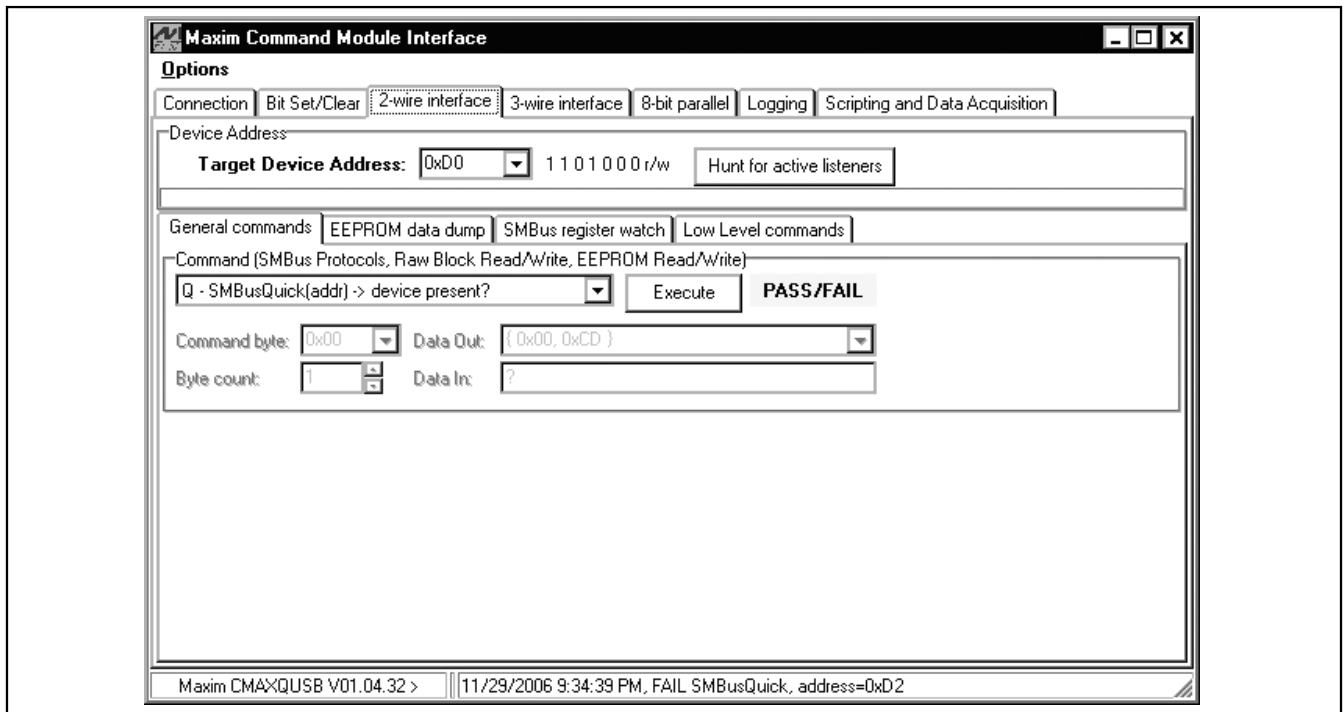

Figure 5. MAX9450 EV Kit Software— Command Module Interface Window
**Command Module Interface** window (see Figure 5), click the **Diagnose** button. Enter the device address (0xD0–0xDE) under **Target Device Address**, or click the **Hunt for active listeners** button to automatically find the I2C address. Under the **General Commands** tab, select **1 - SMBusWriteByte(addr,cmd,data8)**. Under **Command byte**, enter the register address, and under **Data Out**, enter the data byte to write to the register. Note that the byte can be entered in hexadecimal prefixed with “0x” or in binary with no prefix.